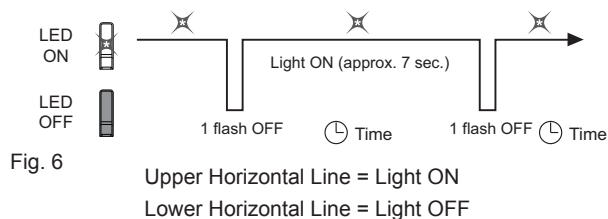

Fig. 6
**Boiler Operating** The  light will flash orange at EVERY heating demand. The number of flashes will correspond with the heat output of the boiler. This is normal and does not indicate a fault condition. During normal running  illuminates green and blinks off momentarily every seven seconds approximately to show the boiler is running normally and supplying heat (Fig. 6).